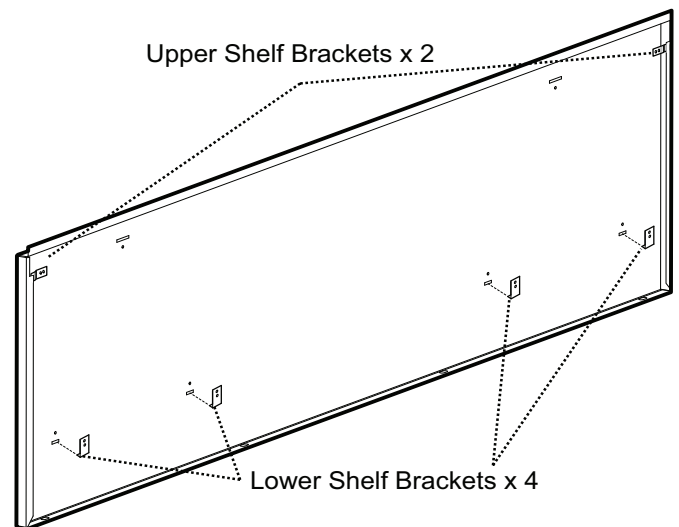

Figure 18: 48" Back of Wall Plate
2. Mount the (2) upper shelf brackets and the (3) lower shelf brackets on the 30" & 36" models or (4) lower shelf brackets for the 48" model at the locations outlined on the templates. Secure with (10) 1" (25.4 mm) screws provided.
5. Install the wall plate by setting the corner notches (back of wall plate) atop the (2) upper shelf brackets.
6. Slide the shelf upwards until the bottom engages with the (3) lower brackets on the 30" & 36" models or (4) brackets for the 48" models (*Figure 18*).